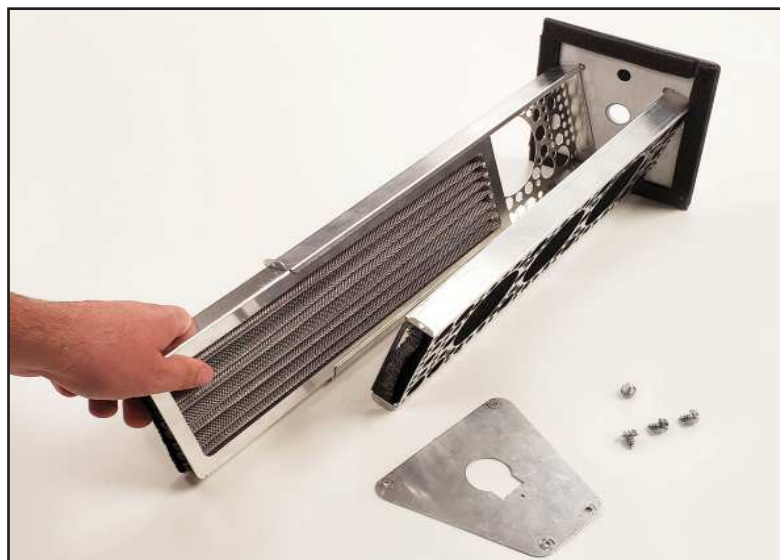

Figure 13
5. With the end bracket taken off, the Pro-Cell catalytic aluminum substrate and carbon media and frame can be slid out of the opening in the back of the unit, see Figure 13. All three parts must be removed together even if only one needs replacing.